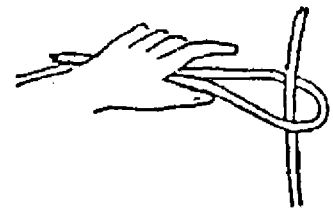

Fig. 3-11-2
- b. With your right hand, thread the end of the other rope through the loop upwards from beneath. (Fig. 3-11-2)